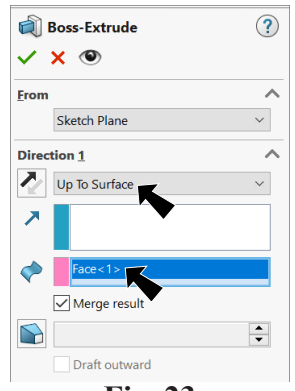

Fig. 23
Step 9. In the Boss-Extrude Property Manager set: under **Direction 1**, **Fig. 23**